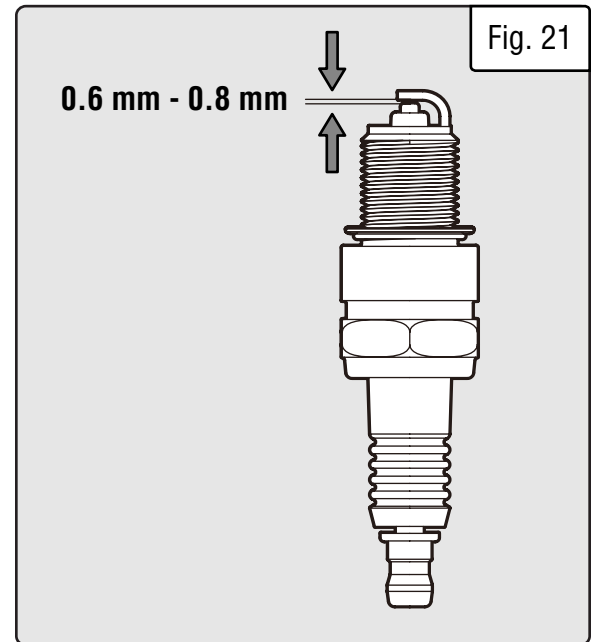

Fig. 21
6. Measure the plug gap with a wire gauge (Fig. 21). The gap should be 0.6 mm - 0.8 mm. Carefully adjust the gap if necessary.